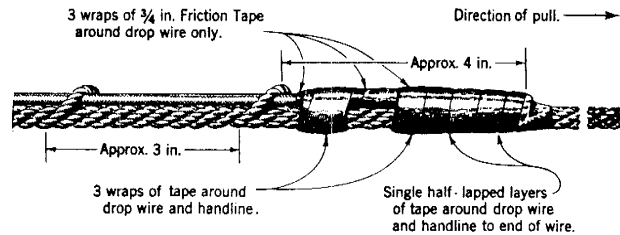

Fig. 2 — Alternate Tie to Prevent Snagging
(4) Set the brake of the drop wire reel so that when the wire is pulled by the handline there will be sufficient tension in the wire to prevent it from sagging onto the trolley contact or power wires or power cables.
(5) With the wire paying off from the bottom of the reel, pass the wire over the first building attachment and through the temporary guide loop at this attachment until the end of the wire reaches the ground.
(6) Man No. 2 lashes one end of the handline to the base of the pole. The handline shall be of a sufficient length to extend vertically from the ground to the strand or pole attachment and then horizontally at least 25 feet beyond the trolley contact or power wires or power cables.
(7) Man No. 1 goes into the street or highway to control traffic, assisted by the police if necessary.
(8) Man No. 2 places the free end of the handline over the strand, guard arm, drive hook, or crossarm. If practicable, the handline may be formed into a coil at one end and thrown over the strand.
(9) Standing on the ground, Man No. 2 now throws the free end of the handline over the trolley contact or power wires or power cables and ties this end of the handline to the end of the drop wire by means of a square knot, serving the end of the wire around itself without sharp bends. If the handline has been placed over a drive hook or other support on which the square knot would snag, fasten the handline to the wire as shown in Fig. 2.